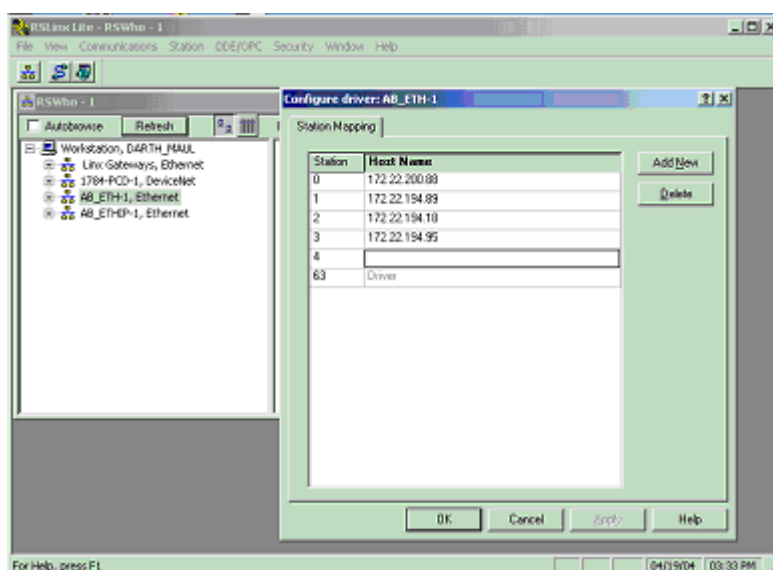

Fig. A.1 (a) Configuring the Driver
- 3 Configure an AB_ETH driver in RsLinux. The configuration screen should be similar to the screen shown in Fig. A.1 (a).